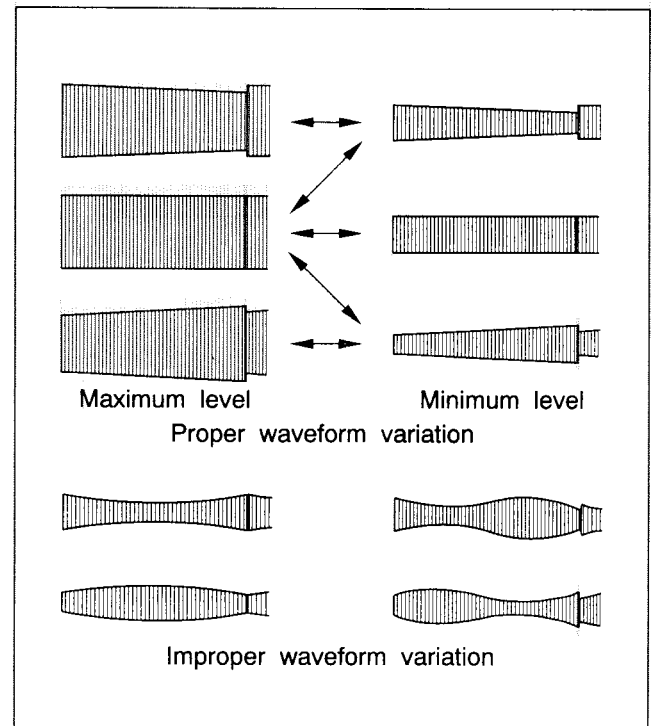

Fig. 2-7-1
- (1) Connect the oscilloscope to TP106(PB FM/COL) of the main board assembly and to TP111(D.F.F) of the main board assembly for external sync connection.
- (2) Playing the alignment tape MHP, observe the FM waveform.
- (3) Press the "AUTO" buttons of the remote controller during playback. (This also brings tracking to the center.)
- (4) Make sure that there is no significant level drop of the FM waveform caused by the tracking operation, with its generally parallel and linear variation ensured. Perform the following adjustments when required. (Fig.2-7-1)